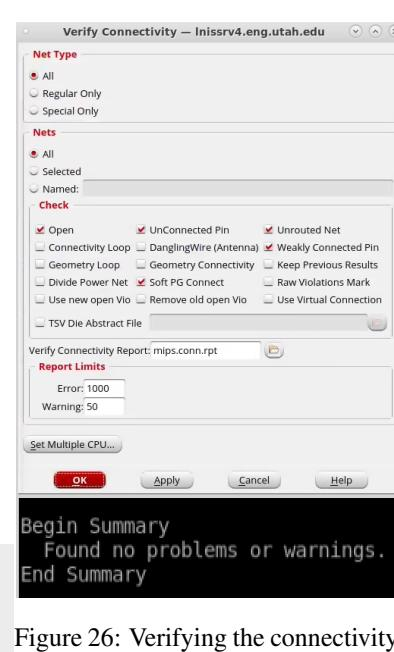

Figure 26: Verifying the connectivity.
2. Select the same options, as shown in Fig. 26.